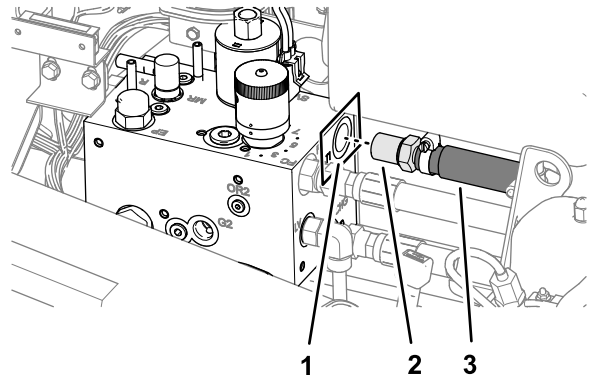

Figure 50
3. Install the straight barb fitting of the hose into port-T of the reel drive manifold (Figure 50).